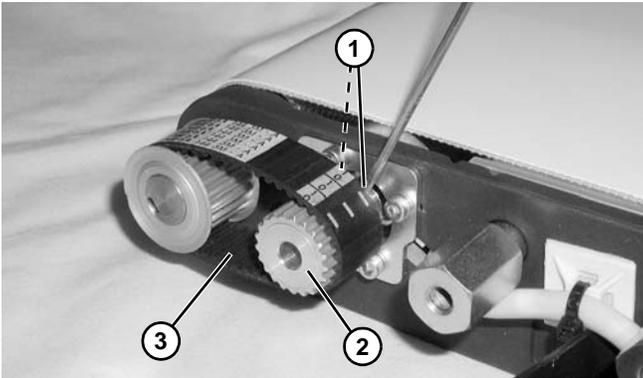

Figure 131
- Loosen two set screws (**Figure 131, item 1**) on drive pulley (**Figure 131, item 2**). Slide drive pulley outward off of gearmotor shaft and remove timing belt (**Figure 131, item 3**).